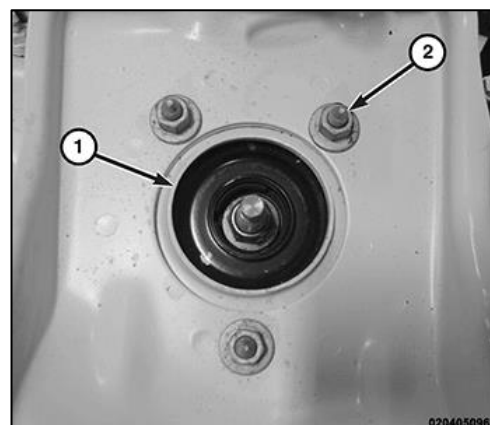

Figure 11
18. Install the three strut mount to body nuts (2), and tighten to 20 Ft. Lbs (27 Nm) <Figure 11>